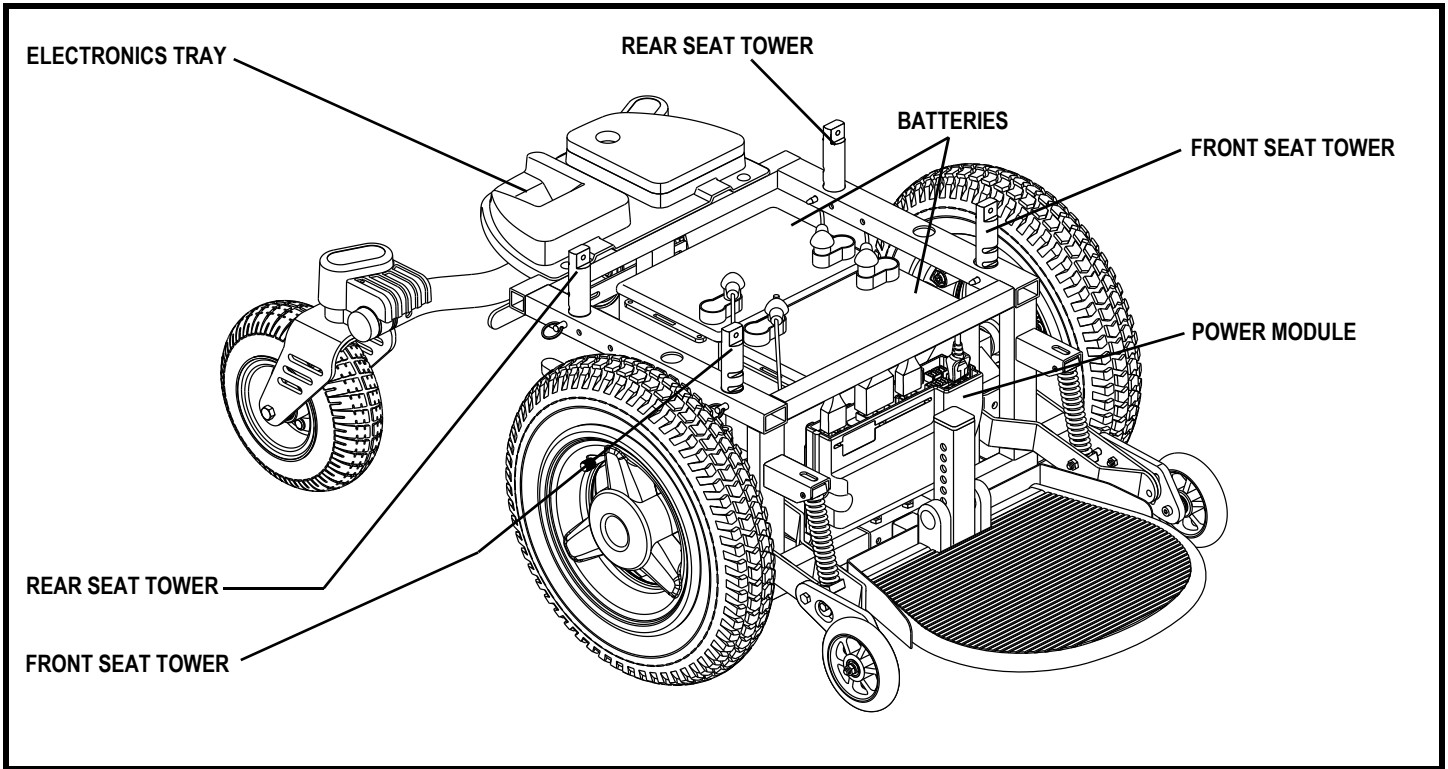

Figure 6. The Quantum Jazzy 1420 Power Base
The electronics tray is located on the back of the power base. See figures 6 and 7.
7. Plug the controller connector into the electronics tray. **See figure 6.**